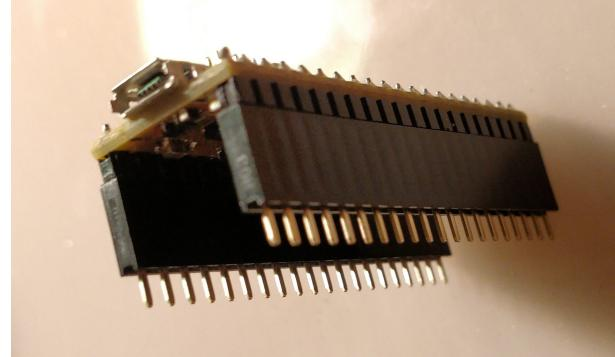

Figure 2: Connectors mounted on the submodule
1. Mount the four female 2×5 connectors on the pins of Daisy Patch Submodule. See figure 2. This will make it easier to properly align all the connectors.